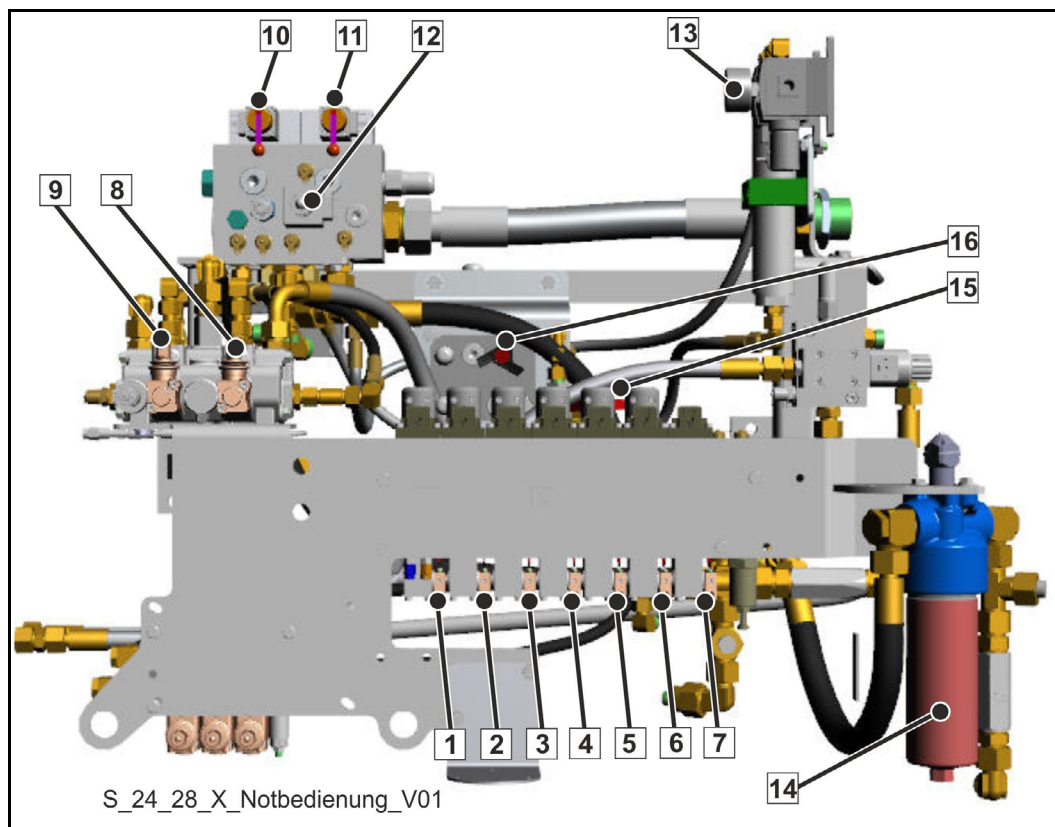
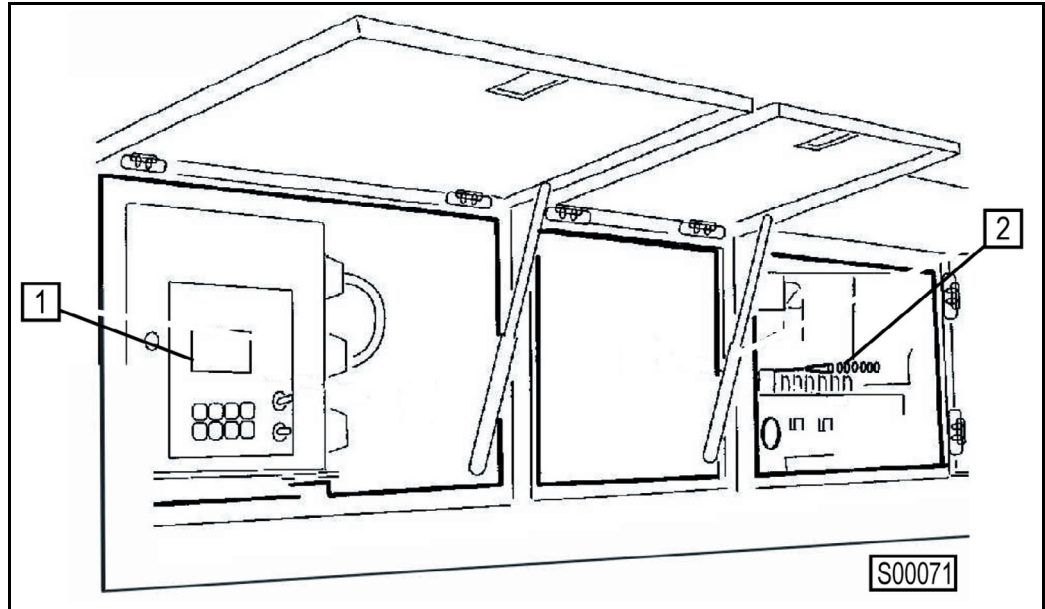
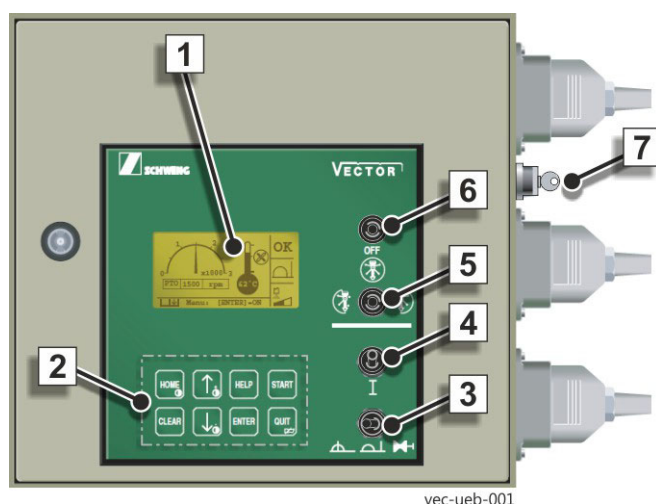

Fig. 25 Control station
Fig. 26 Control
Fig. 27 VECTOR switch cabinet
The terminal box of the VECTOR control (Fig. 27) and the control station for the hydraulic emergency operation (Fig. 25) are located in lockable housings on the right side of the machine (Fig. 26).
Caption (Fig. 25 Control station)
The hydraulic emergency control (2) and the terminal box of the electrical control (1) are located on the right side of the machine (**Fig. 26**) in lockable housings.
Caption (Fig. 26 Control)
Caption (Fig. 27 VECTOR switch cabinet)